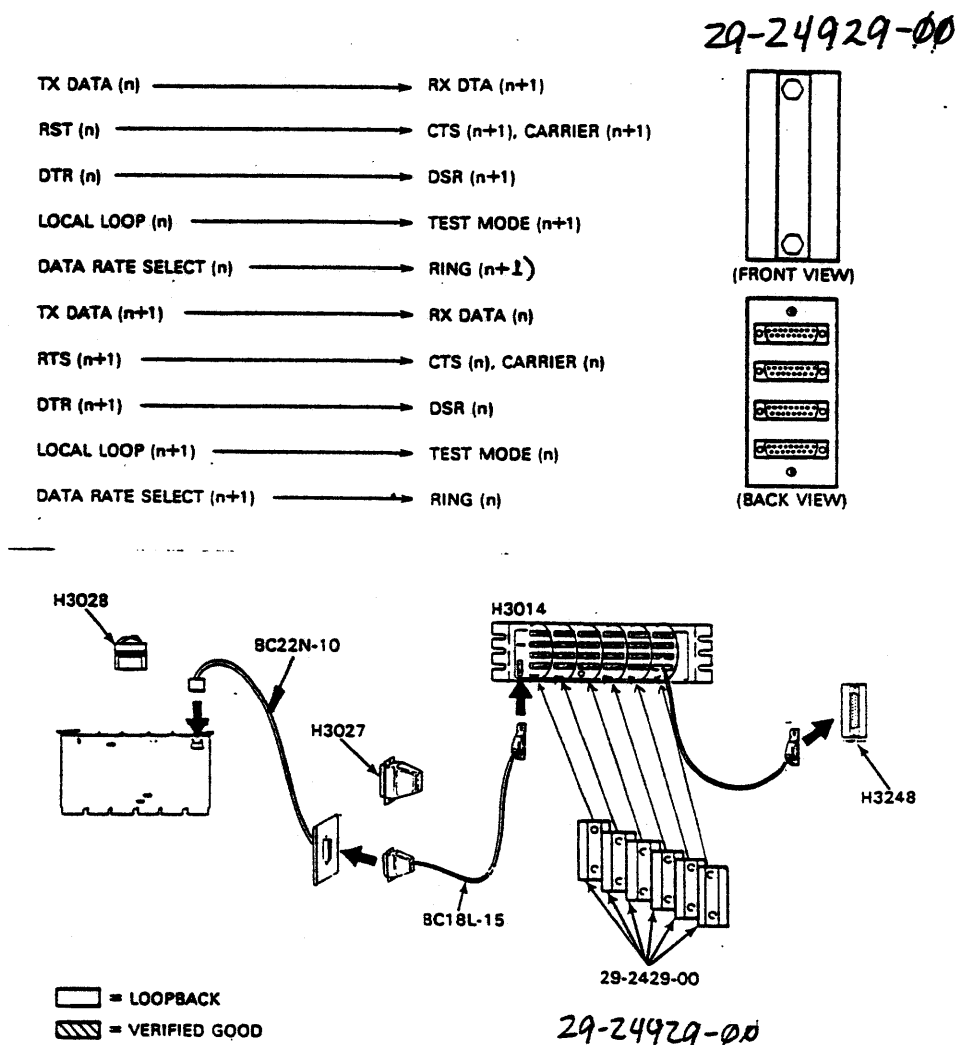

Figure 4-8 29-24929-00 Staggered Loopback Connector
The Staggered Multiline Loopback test is conducted by field service personnel using six (6) 29-24929-00 (Figure 4-8) turnaround connectors which are supplied in the CD Kit (A2-W0707-10). The 29-24929-00 turnaround connectors are attached to the distribution panel so that all connectors have a loopback attached. When connected, this test checks for line interaction and asynchronous line problems.